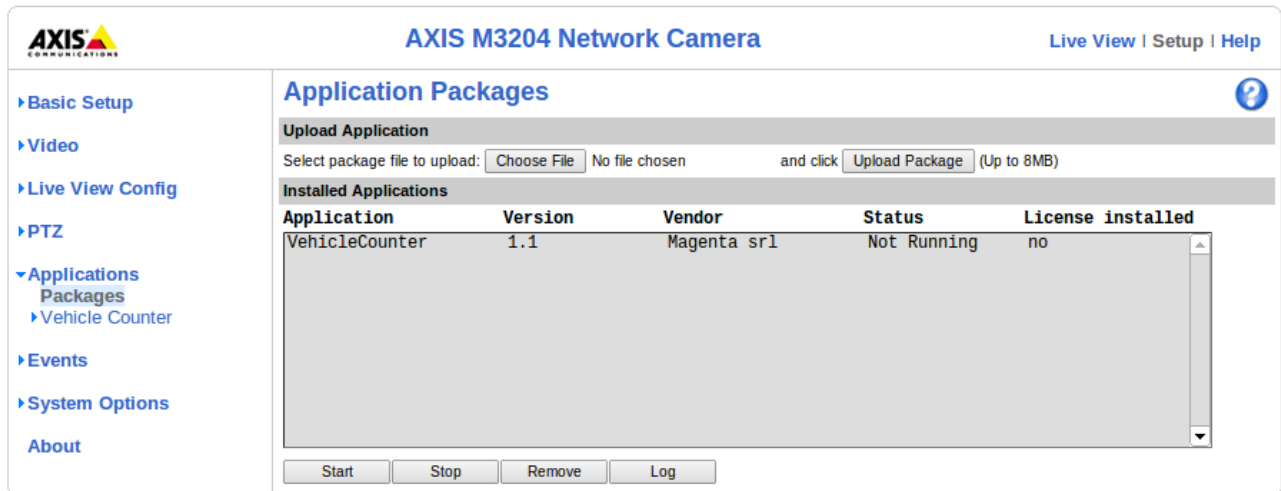

Figure 1: The Axis camera Application Packages page
3. once installed, the VehicleCounter application will be listed in the “Installed Application” section of the page, as depicted in Figure 1.
To run the application, select it from the list in the “Application Packages” page of the camera server web interface and click the “Start” button (see Figure 1). The application status should change from “Not Running” to “Running”. To stop the application simply click the “Stop” button.